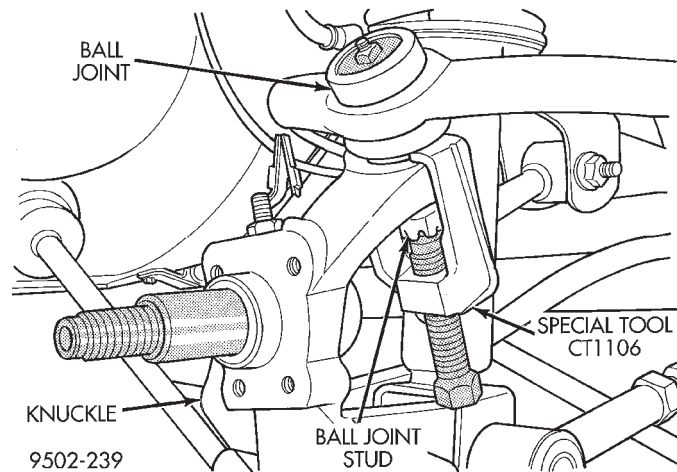

Fig. 24 Ball Joint Stud Removal From Knuckle
(6) On only the side of the vehicle requiring control arm removal, separate the control arm ball joint from the rear knuckle using following procedure.
- Remove ball joint stud from knuckle using Puller, Special Tool, CT- 1106 (Fig. 24). When using puller, install castle nut on ball joint stud to protect threads from damage.